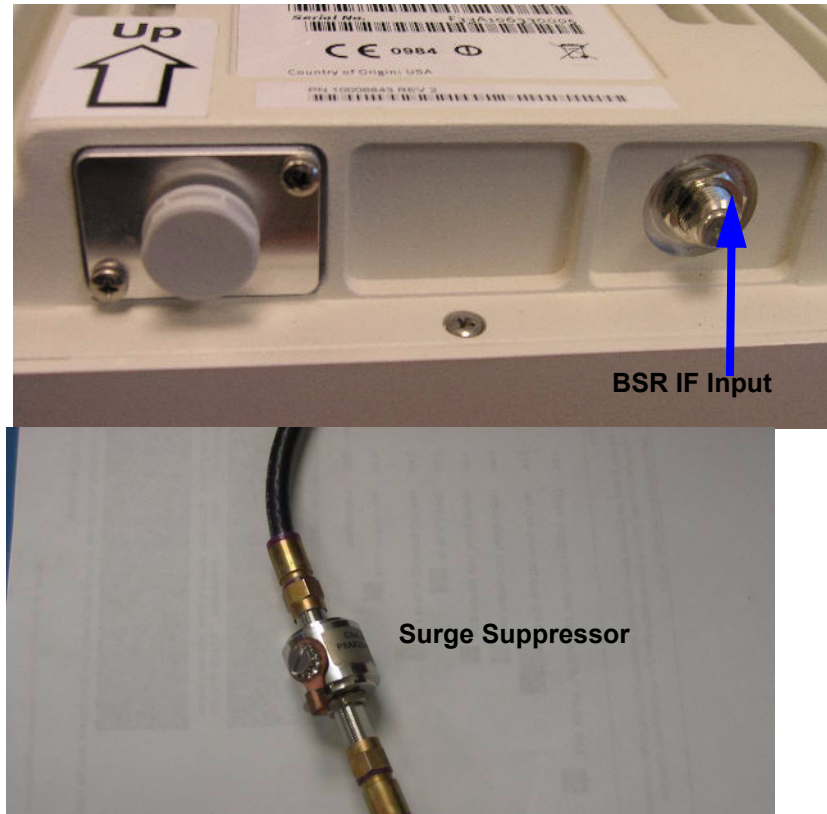

Figure 4-8 Base Station - Surge Protector - PA SP-OUTDOOR-08
- A. BSR to surge suppressor: Connect one cable from the BSR IF input to one side of surge suppressor 1. Figure 4-8 shows a PA-SP-OUTDOOR-O8 surge suppressor and a BSR IF input picture.
- A. Locate and insert the grounding lug on the surge suppressor (Figure 4-8). Aperto recommends two grounding cables (60 inches, 10 AWG weather-proof cable).